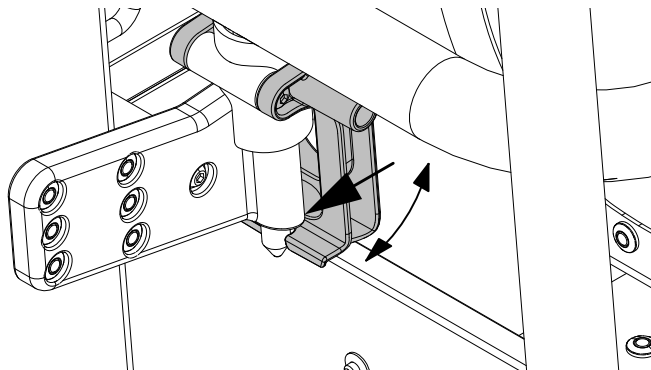
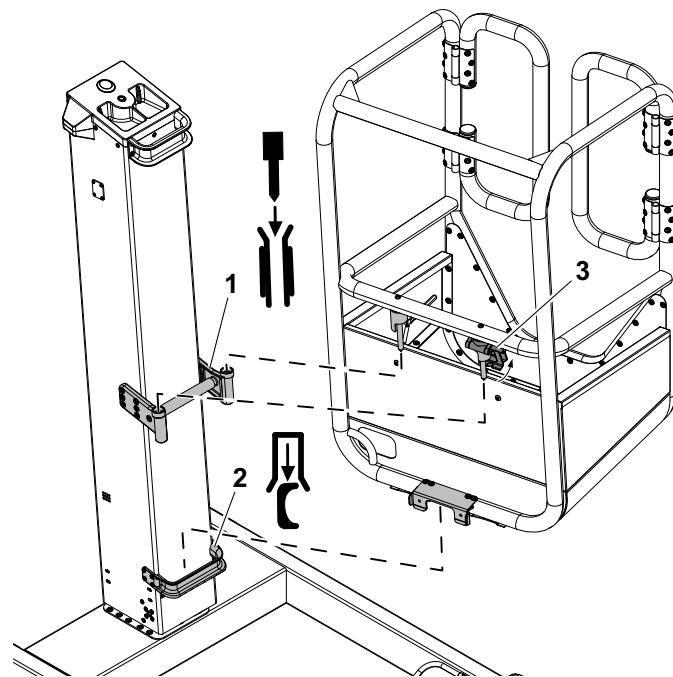

Figure 3-10. Platform Latch Engaged
Figure 3-11. Platform to Mast Installation
5. Attach the platform to the mast (See Figure 3-10. and Figure 3-11.).
CHECK: Try to lift the platform out, if it does not release, then the platform has engaged properly. (See Figure 3-10.)